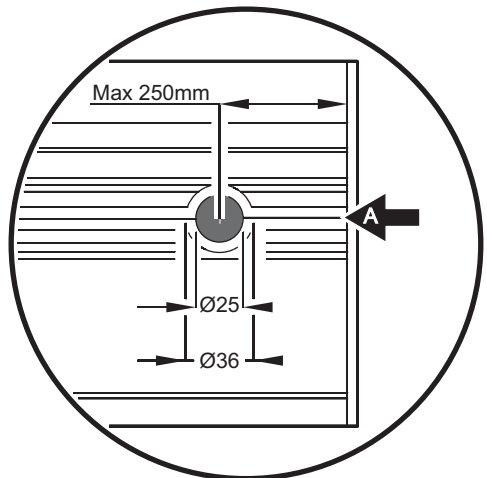
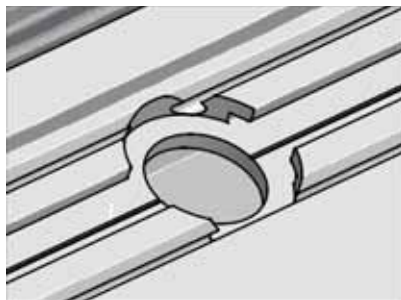

Figure 4: Drilling extra cable holes
Figure 5: Luminaire after drilling
1. See Figure 4 and Figure 5. Note the position of the drilling guide groove (A) in the channel on the lower side of the luminaire. Drill or grind a flat countersink 36 mm in diameter, centered on the guide groove and flush with the guide groove surface at the bottom of the channel, maximum 250 mm (9.5 in.) from the end of the luminaire.
Mount the membrane nipple ready for cable entry as shown in Figure 5. Cable must be passed through the nipple for waterproof and safe cable entry.